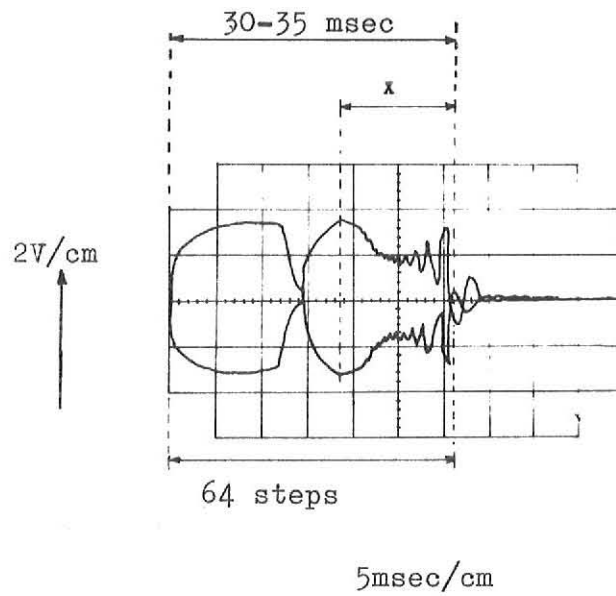
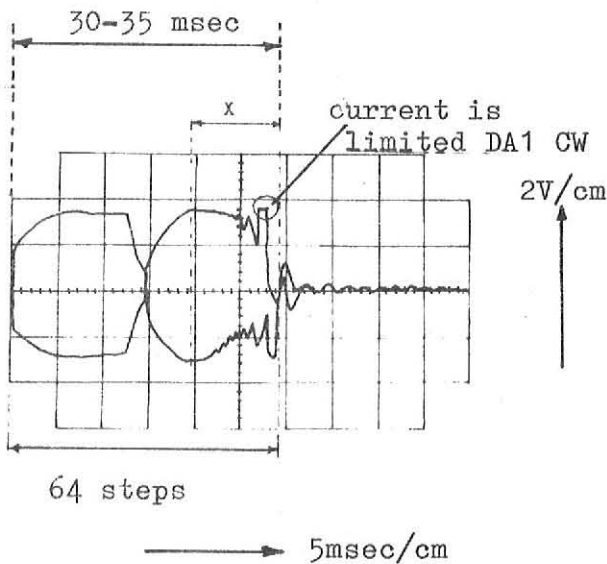

Fig. 7-5
Fig. 7-6
- 9) Turn potmeter DA1 CCW (speed is increased) till the current is correct, see fig. 7-5 with due regard to mentioned on point 11. When the speed becomes higher turn VX3 CW till it is correct, see fig. 7-6 and 7-7
The current should not be limited, fig. 7-6/7-7.